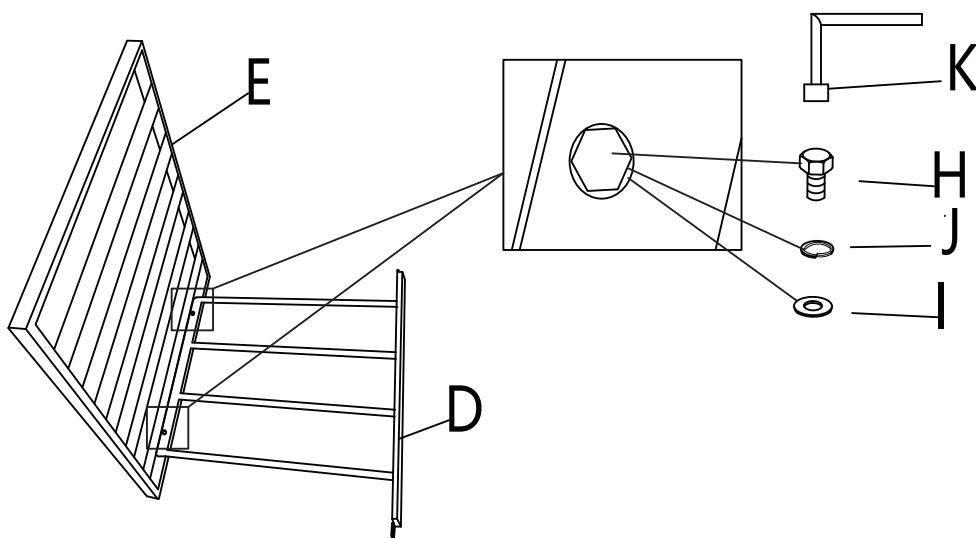

Figure 2
- 2 Attach the back panel (D) to the seat panel (E) with M6\*15 bolt (H), M6 lock washer (J) and M6 washers (I) using socket wrench (K). See figure 2.